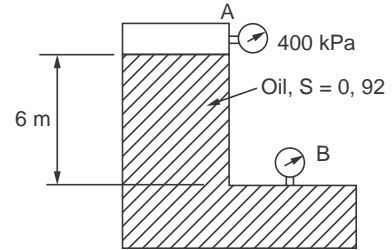

Figure E. 2.5
**E.2.5.** A vessel of the shape shown in Fig. E.2.5 is filled with a liquid of specific gravity 0.92. The pressure gauge at A reads 400 kN/m2. Determine the pressure read by a gauge (Bourdon type) fixed at B. Neglect gauge height. **[454.15 kN/m2]**